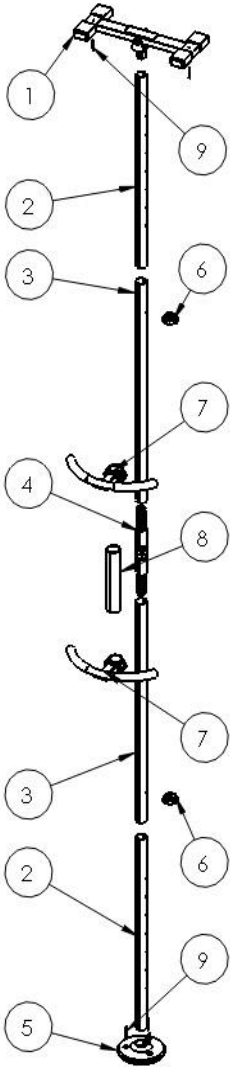

FIGURE 1
**NOTE:** This product is designed to be used with ceiling heights that range from 7 to 10-foot ceilings. For 10 to 12-foot ceiling heights, an Extension Tube can be purchased separately by calling Stander Incorporated at (800) 506-9901 or (435) 755-0453.
1. Take all parts out of the box and lay them on a flat surface near the place the product is to be installed as shown in Figure 1. Also included (not shown) are, a large adjustment wrench and Allen wrench.